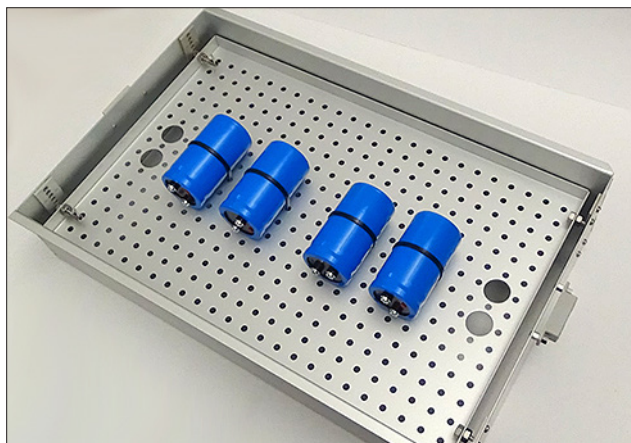

Figure 12.3m: Quadrant boxes with adjustable mounting trays hold large specimens.
- For best UV exposure, position specimens away from the edges of the box. See Figure 12.3m.